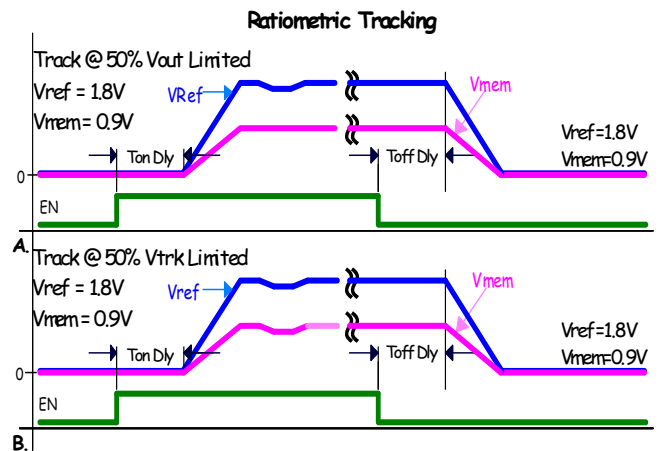

FIGURE 23. RATIOMETRIC TRACKING
- Track at 50% V_{OUT} limited. Member rail tracks the reference rail and stops when the member reaches 50% of the target voltage Figure 23 \(A\).
- Track at 50% VTRK limited. Member rail tracks the reference at the instantaneous voltage value applied to the VTRK pin until the member rail reaches 50% of the reference rail voltage, or if the member is configured to less than 50% of the reference the member will achieve its configured target Figure 23 \(B\).
TABLE 13. TRACKING CONFIGURATION (Figure 23 (A))
TABLE 14. TRACKING CONFIGURATION (Figure 23 (B))